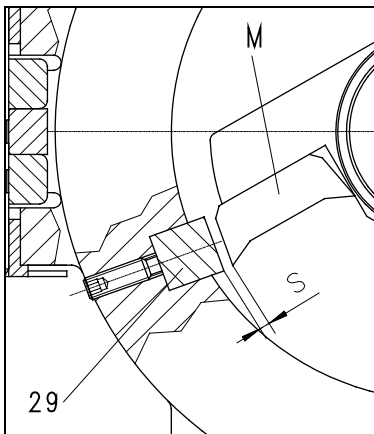

Fig.12
- Check the gap between knife **M** and cutting strips **29** with a feeler gauge. **Fig.12** (setpoint value = $>0.2\text{mm}$ $<0.3\text{mm}$).